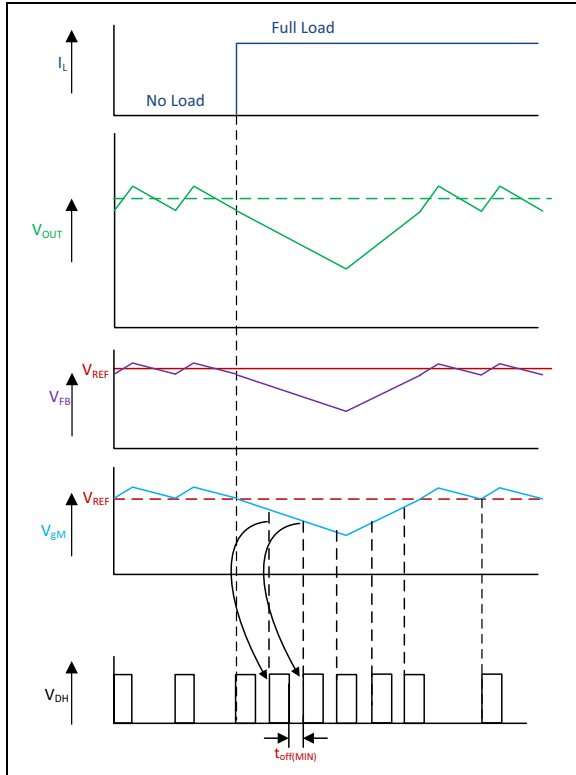

**FIGURE 4-1:** MIC2128 Control Loop Timing.
The MIC2128 is an adaptive on-time synchronous buck controller which operates based on ripple at feedback node. The output voltage is sensed by the MIC2128 feedback pin (FB) and is compared to a 0.6V reference voltage ( $V_{REF}$ ) at the low-gain transconductance error amplifier (gm) as shown in the Functional Block Diagram. Figure 4-1 shows the MIC2128 control loop timing during steady-state operation.